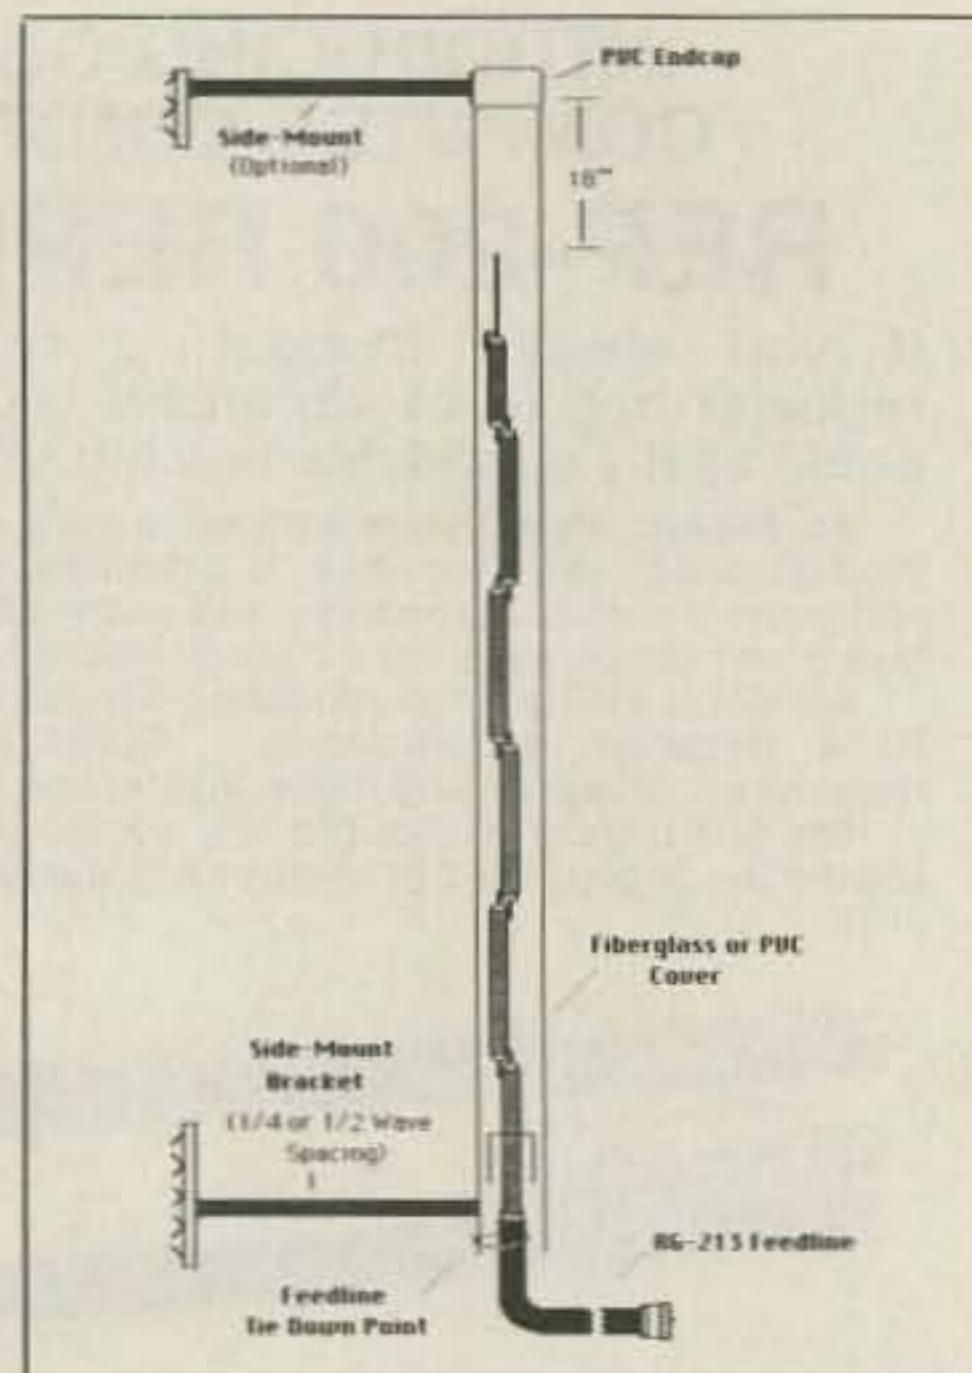

Figure 7. Completed collinear (four 1/2-wave elements).
Step 12. Cut a piece of fiberglass pipe (or PVC) so that 18 inches or more extend past the top of the whip and below the decoupling sleeve. Slide the antenna carefully into the fiberglass pipe and cap off the top of the pole. Drill two holes near the bottom of the radome pipe and pass an insulated wire through and around the feedline (below the decoupling sleeve). Twist the wire until it holds the feedline tightly against the radome cover. Place another styrofoam spacer on the very end of the pipe and glue it in place. Make sure to poke a few small holes or notches in the spacer to allow the end of the antenna to breathe. You're now ready to fire up your collinear! See Figure 7. [Ed. Note: You can obtain economical fiberglass tubes custom made to your dimensions from: Lightning Bolt Antennas, RD #2, Route 19, Volant PA 16156. Telephone 1-412-530-7396].